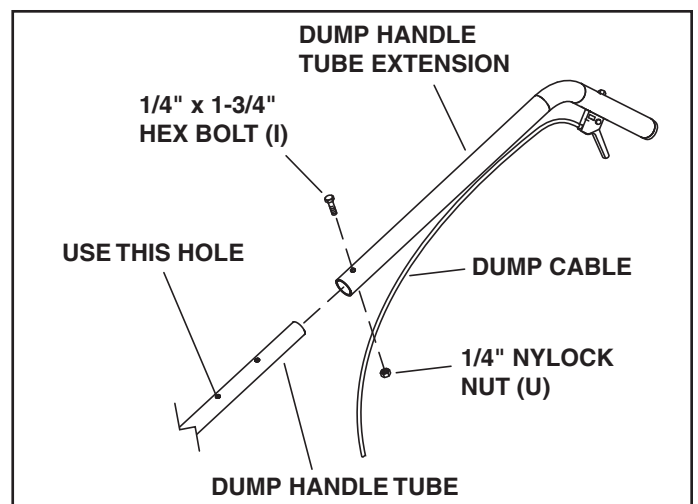

FIGURE 15
STEP 16: INSTALL DUMP HANDLE TUBE EXTENSION (SEE FIGURE 15)
- Install the dump handle tube extension on the dump handle tube using a 1/4" x 1-3/4" hex bolt (I) and 1/4" nylock nut (U).
- Attach the dump cable to the dump handle tube using three cable ties (PP).